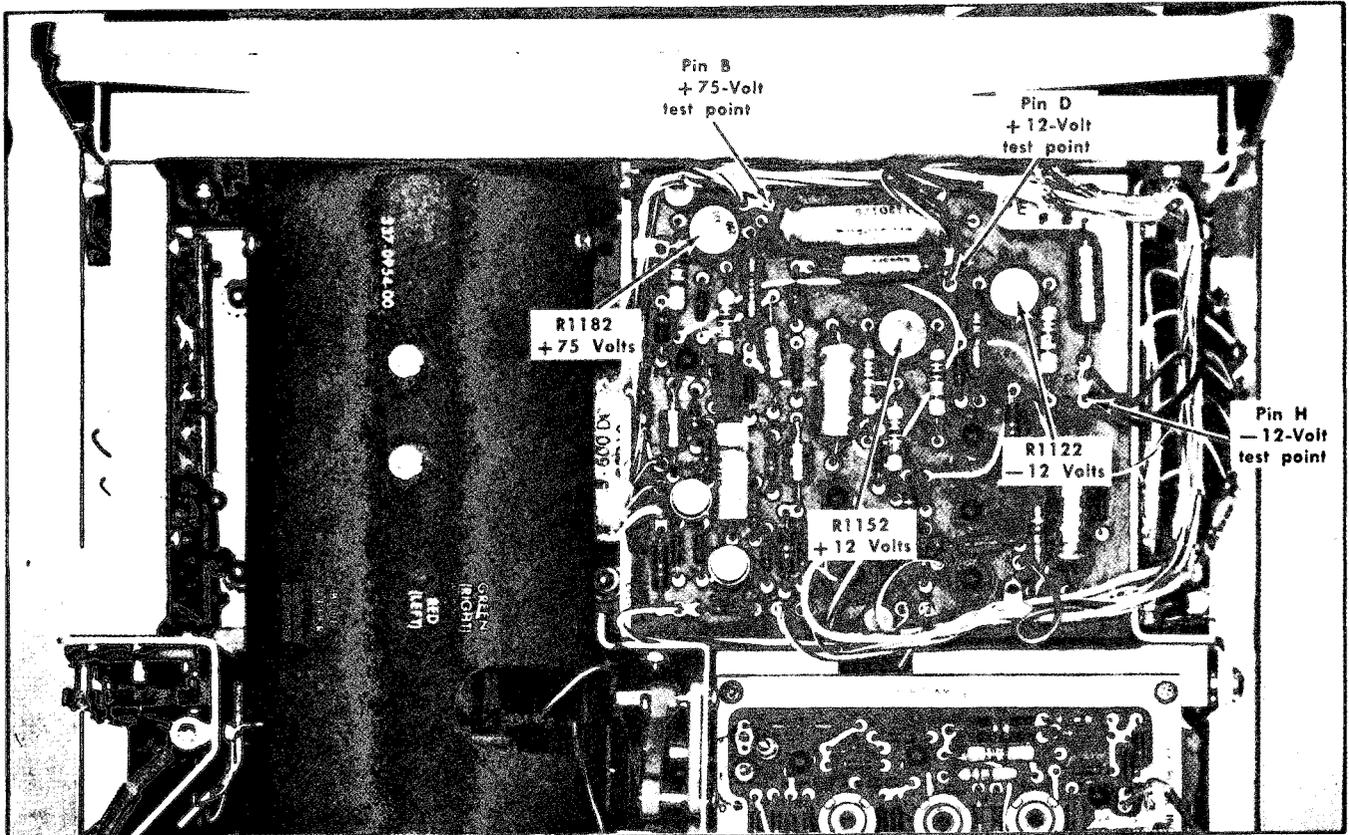
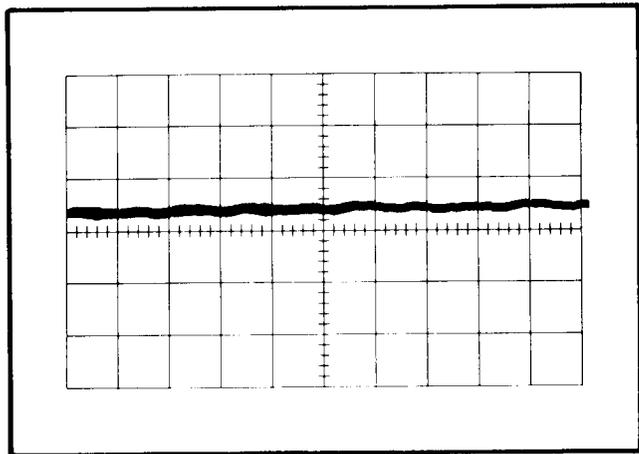

Fig. 6-4. Low-voltage power supply test points and adjustments (Low-Voltage Regulator circuit board).
Fig. 6-8. Typical test oscilloscope display of power-supply ripple (60-cycle line). Vertical 0.005 volt/division; sweep rate, five milliseconds/division.
- b. Connect the precision DC voltmeter from the -12-volt test point (pin connector 'H', Low-Voltage Regulator board; see Fig. 6-4) to chassis ground.
- d. ADJUST- -12 Volts adjustment, R1122 (see Fig. 6-4), for -12 volts.
- d. ADJUST- +12 Volts adjustment, R1152 (see Fig. 6-4), for a +1 volt meter reading.
- h. Connect the precision DC voltmeter from the +12-volt test point (pin connector 'D', Low-Voltage Regulator board; see Fig. 6-4) to chassis ground.
- a. Connect the precision DC voltmeter from the +75-volt test point (pin connector 'B', Low-Voltage Regulator circuit board; see Fig. 6-4) to chassis ground.
- c. ADJUST- +75 Volts adjustment, R1182 (see Fig. 6-4), for +75 volts.
Voltage Selector assembly on the rear panel. Power-supply test points are shown in Fig. 6-4. Fig. 6-8 shows a typical test oscilloscope display of ripple.